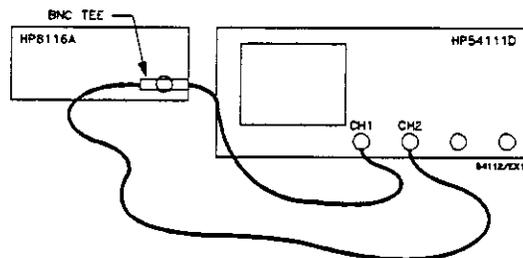

Figure 11-2. Equipment Setup
- Set input impedance of Channel 2 to 50 Ω (See Figure 11-2 for the equipment setup).